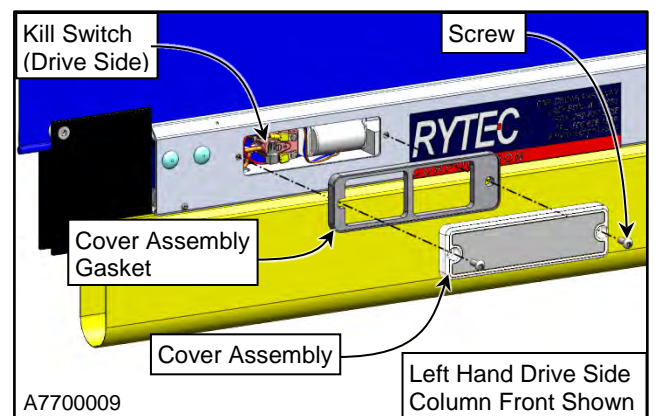

Figure 41
2. Remove the kill switch assembly access cover from the bottom bar. The kill switch is located on the same side as the door motor. (See Figure 41)